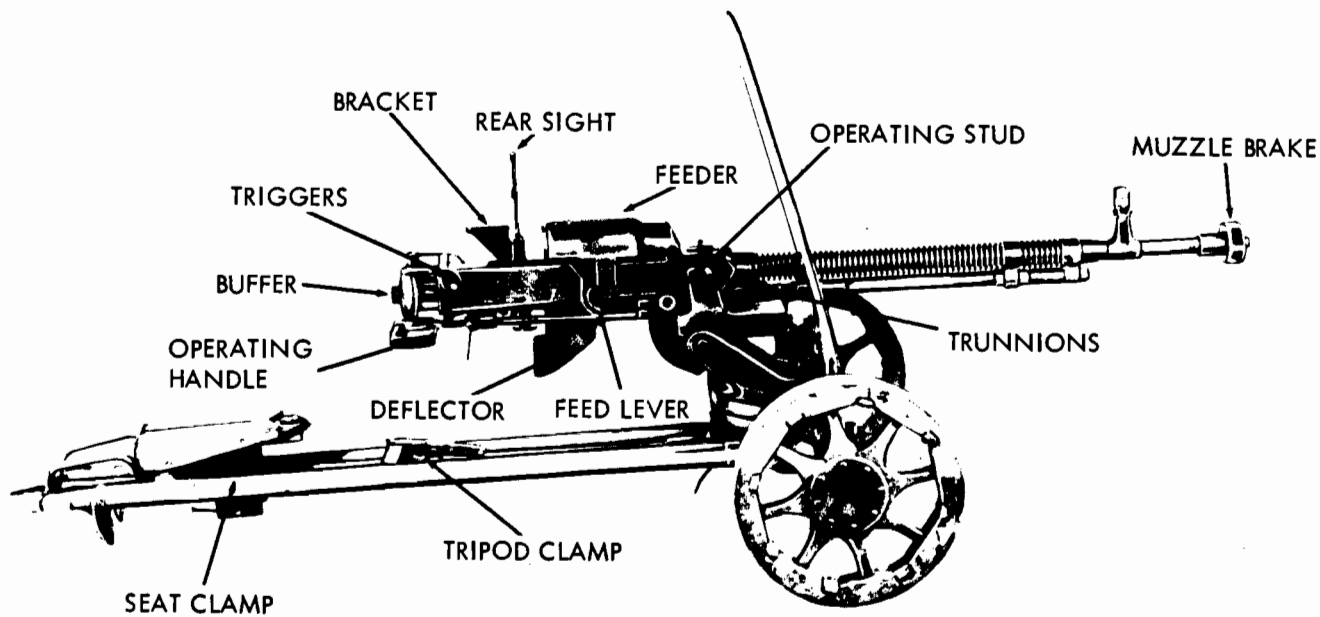

Figure 76. 12.7-mm Degtyarev heavy machinegun DShK-38.
a. The Soviet-designed Degtyarev 12.7-mm heavy machineguns are used by the Eurasian Communist countries as an antiaircraft/antivehicular weapon. The Warsaw Pact countries use this weapon almost exclusively on vehicular mounts, whereas the Asian Communist countries appear to use it mostly on its ground mount. The original DShK (fig. 76) machinegun had a complicated rotary feeder that was superseded by a conventional shuttle-type feeder in the Model 38/46 (fig. 77). A number of other changes in the Model 38/46 made most of the parts noninterchangeable between the two guns. The Chinese Communists have produced the Model 38/46 as their Type 54 heavy machinegun. These guns can be identified by the Chinese characters stamped into the receiver behind the feeder.
g. To fire, rotate the safety rearward; then aim--using a normal sight picture--and squeeze the trigger (fig. 76). The bolt will remain closed on an empty chamber when the last round has been fired.
a. The DShK-38 and the Model 38/46 heavy machineguns are mounted on the Model 1938 mount (fig. 76). This wheeled mount is used for ground fire and can be readily converted for antiaircraft fire (fig. 78). A large flat armored shield is used to protect the crew when the gun is used in its ground role. Like all Soviet heavy machinegun mounts, it has a coarse free traverse and elevation movement with a fine adjustment on the elevation movement only.
b. To mount the gun, open the trunnion caps by loosening the cap wing-nuts and swing the caps open. Place the gun trunnions (fig. 76) into their seats, close the trunnion caps, and